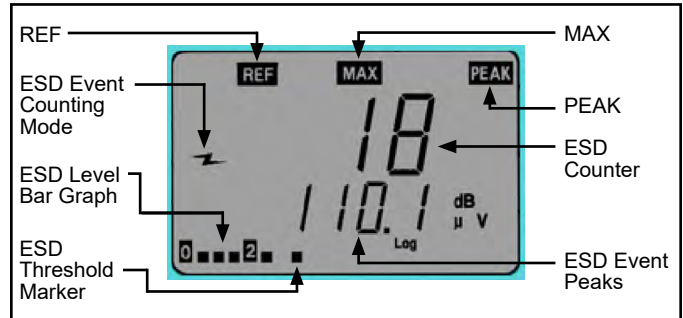

Figure 9. ESD Event channel
1. Toggle the joystick until the ESD Event channel is displayed (see Figure 9).